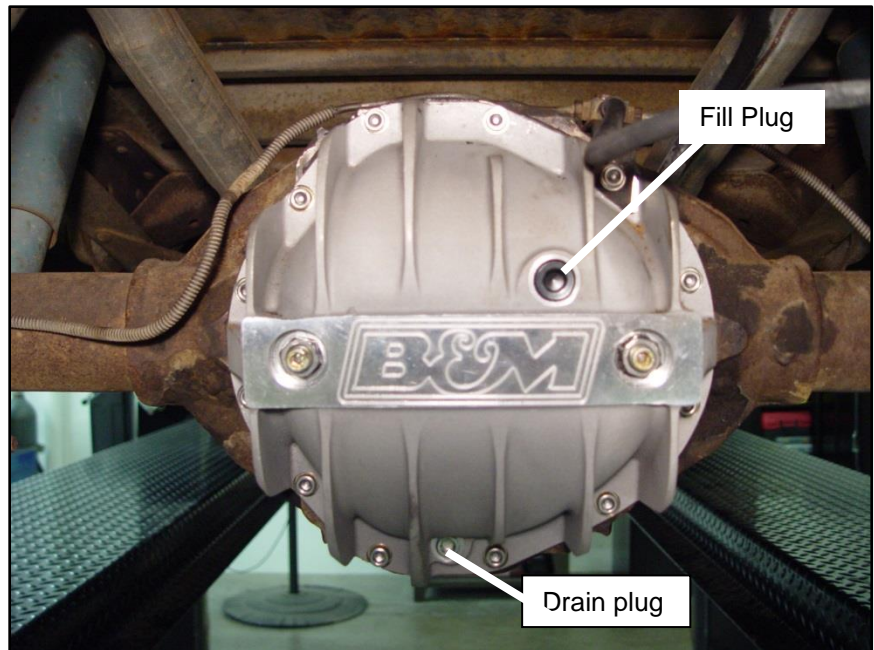

Figure 5
STEP 16. Install the supplied magnetic 1/4" NPTF drain plug on the **B&M Cast Aluminum Rear End Cover** and tighten (**See Figure 5**).
B&M Cast Aluminum Rear End Cover fill plug hole (**See Figure 5**). Add gear oil until oil runs out of the axle housing fill hole.